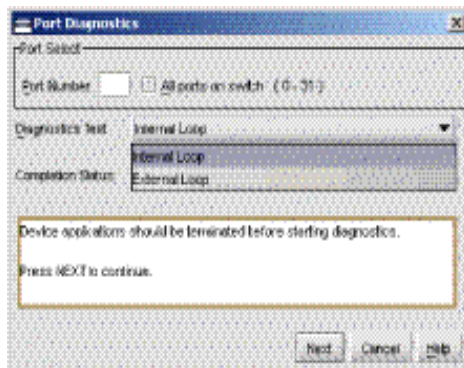

Figure 4-14 Port Diagnostics Dialog Box
1. Select *Port Diagnostics* from the *Maintenance* menu (*Maintenance>Port Diagnostics*). The *Port Diagnostics* dialog box appears (Figure 4-14).
3. Select *Port Diagnostics* from the *Maintenance* menu (*Maintenance*>*Port Diagnostics*). The *Port Diagnostics* dialog box appears (Figure 4-14).